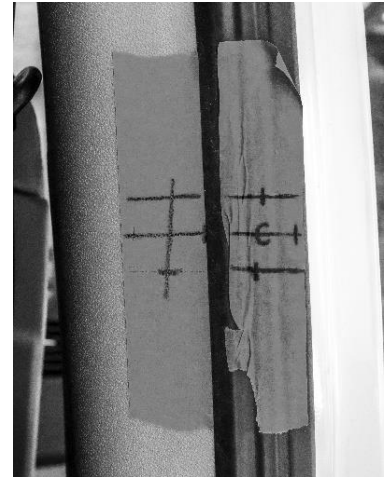

Figure 4 Passenger side
e. Transfer your markings over to the plastic B-pillar covers (Fig. 4 & 5).